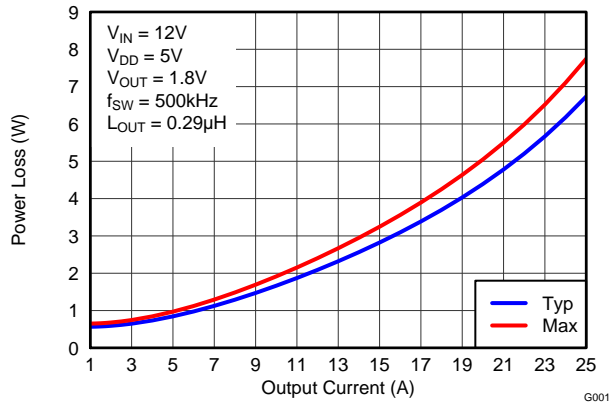
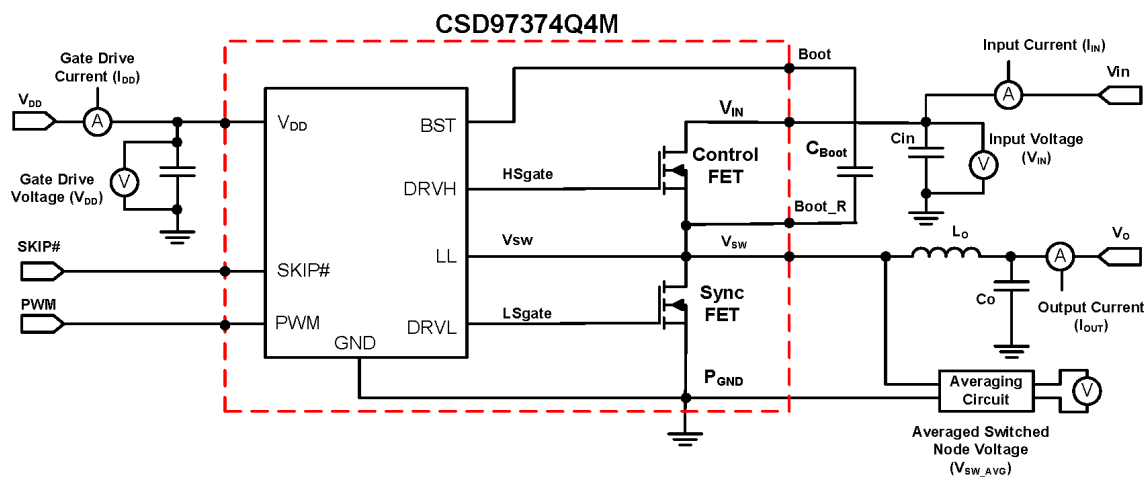

Figure 3. Power Loss vs Output Current
Figure 17. Power Loss Test Circuit
MOSFET centric parameters such as  $R_{DS(ON)}$  and  $Q_{gd}$  are primarily needed by engineers to estimate the loss generated by the devices. In an effort to simplify the design process for engineers, Texas Instruments has provided measured power loss performance curves. Figure 3 plots the power loss of the CSD97374Q4M as a function of load current. This curve is measured by configuring and running the CSD97374Q4M as it would be in the final application (see Figure 17). The measured power loss is the CSD97374Q4M device power loss which consists of both input conversion loss and gate drive loss. Equation 1 is used to generate the power loss curve.
The power loss curve in Figure 3 is measured at the maximum recommended junction temperature of  $T_J = 125^\circ\text{C}$  under isothermal test conditions.
- Typical Power Loss at 15A = 2.8W (Figure 3)